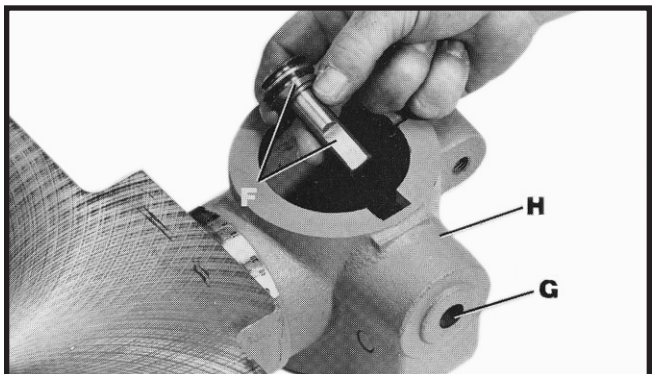

Fig. 4
3. Insert shaft of worm gear (F) Fig. 4, into hole (G) from inside of table bracket (H).